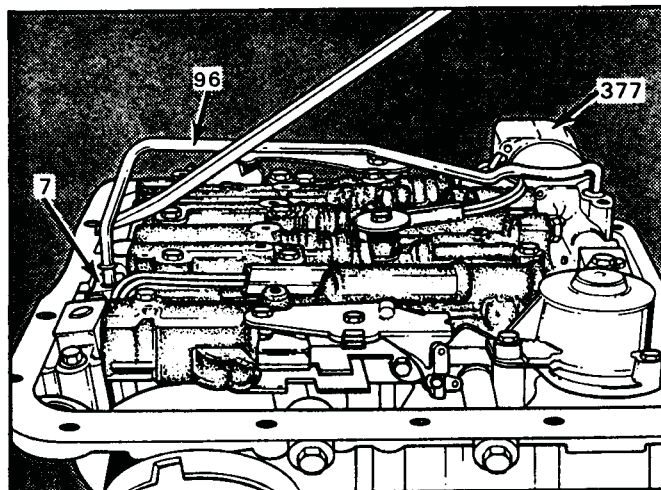

Figure 58
10. Remove the auxiliary valve body tube bolts and clamps, and remove auxiliary valve body tube by prying carefully with screwdriver (See Figure 58).